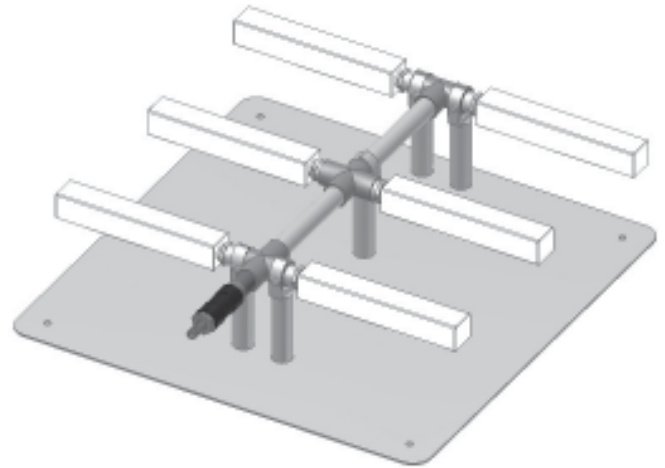
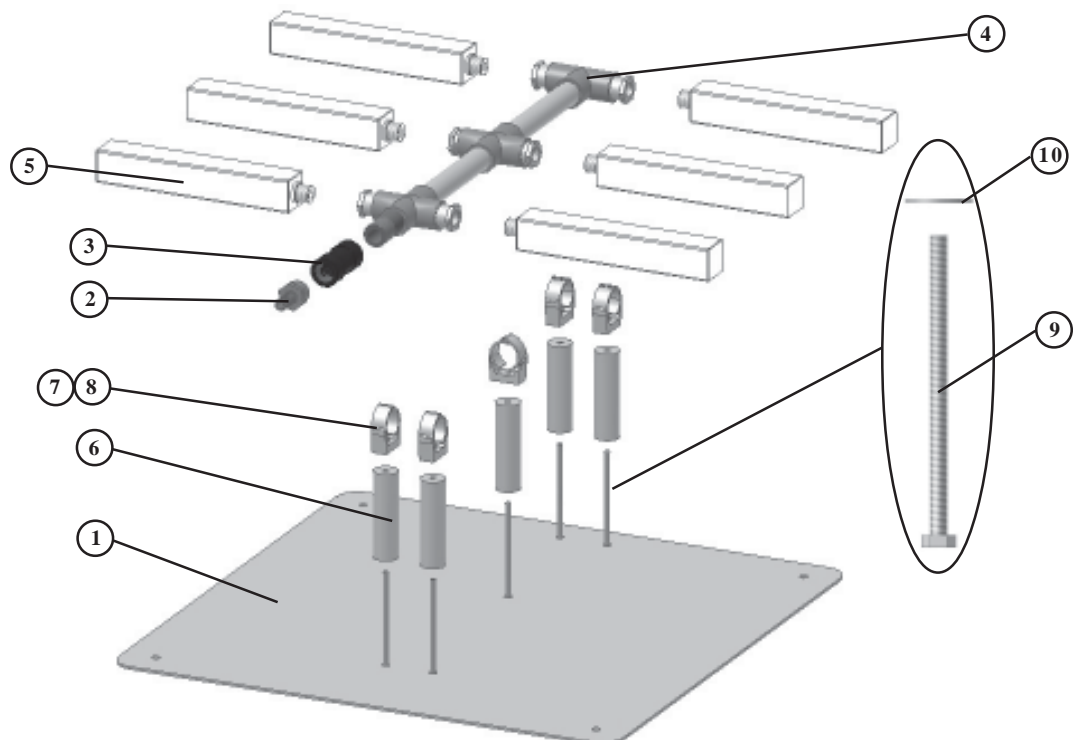

Figure 11a: Completed Diffuser Assembly
Figure 11b: Exploded View of Diffuser Assembly
1. Mounting Standoffs: Locate the five holes in the center of the manifold barrier (1), place the fender washers on to the hex bolts (9) and insert the bolts through the holes from the bottom of the barrier. Slide the PVC standoffs (6) over the bolts from the top side and thread the pipe clamps (7) on to the bolts (**See Figure 11b**). The 1/4"-20 S/S threaded adaptor nut (8) is pressed into the pipe clamp for the bolt to fasten to. Do not tighten the bolts. This will be the last step.
2. Assemble the Check Valve: Thread the check valve (3) and PVC barbed adaptor (2) into the manifold piping assembly (4) as shown. Do not overtighten. Make sure the arrow on the check valve is pointing towards the manifold assembly in the direction of the air flow. The check valve will help to prevent the back flow of water into the air line when the compressor is not in operation.
3. Mount the Diffuser Manifold: Insert the manifold piping assembly (4) into the open pipe clamps (7) (**See Figure 11a**). Compress the sides of each clamp together around the piping until they click closed, locking the manifold in position.
Thread the six diffuser stones (5) into the manifold piping assembly (4) (**Shown in Figure 11b**). To avoid damage to the fittings only turn the diffuser in until it is hand-tight, **Do Not Over-Tighten!** Do not apply thread sealant.